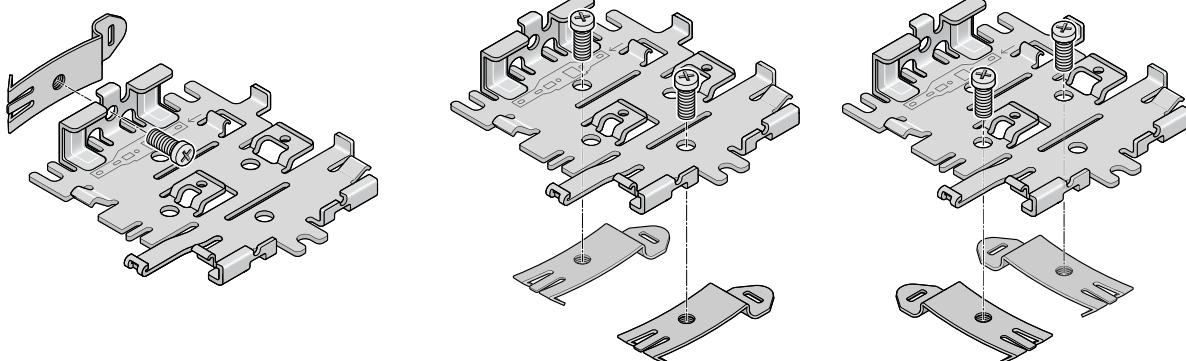

Figure 2-8: Attaching the DIN rail clips
1. Attach the DIN rail clips to the bracket as shown in Figure 2-8.
4. Attach the FX30 to the DIN Rail. See Figure 2-8.